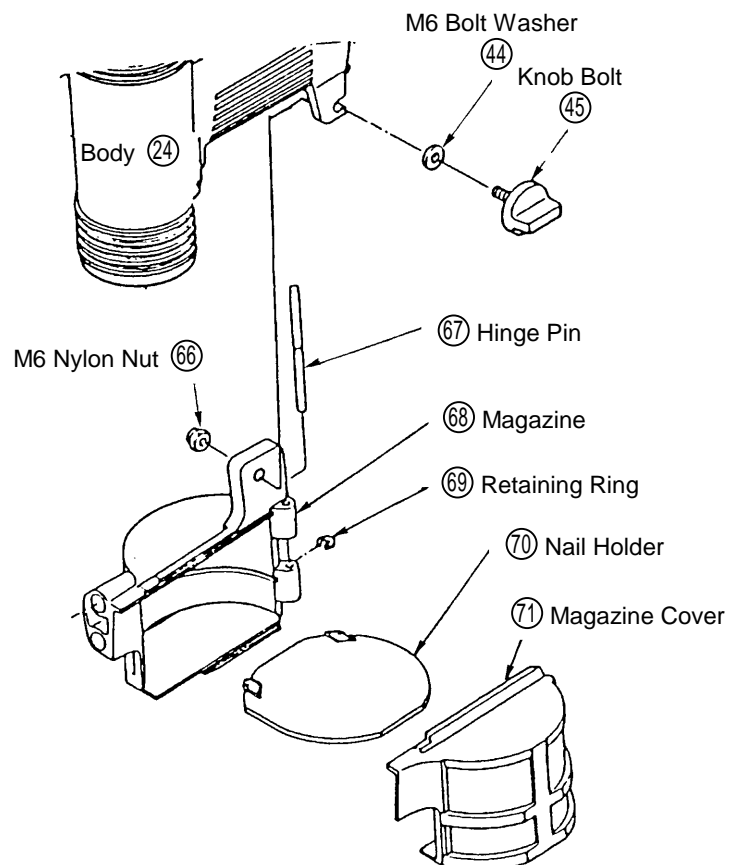

Fig. 24
- (1) Disassembly: (Refer to Fig. 24)
- Loosen the Knob Bolt ④⑤, and extract the Magazine ⑥⑧ backward. The Magazine ⑥⑧ and related parts can then be disassembled from the Body ②④.
- Insert a minus screwdriver into a gap between the Magazine ⑥⑧ and magazine Cover ⑦①, and remove the Retaining Ring ⑥⑨. The Magazine Cover ⑦① can be taken off by extracting the Hinge Pin ⑥⑦.
- (2) Reassembly: (Refer to Fig. 24)
- Assemble the Retaining Ring ⑥⑨ onto the groove of the Hinge Pin ⑥⑦, and check that the Retaining Ring is properly rested in the groove.